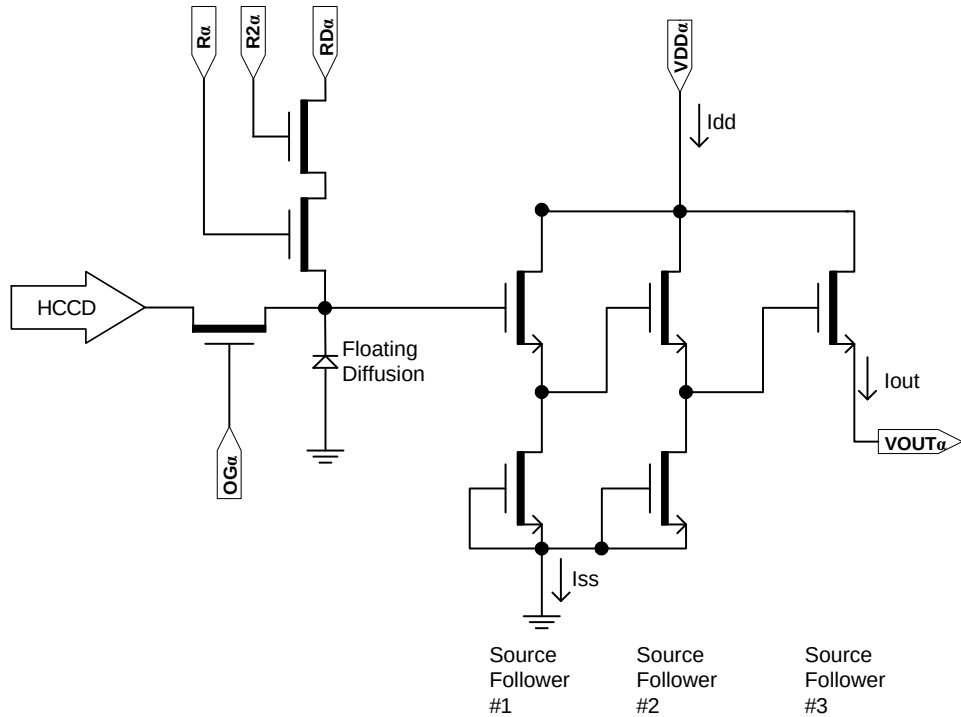

Figure 21. Output Amplifier – Showing Dual Reset Pins
2. The maximum DC current is for one output. I_{dd} = I_{out} + I_{ss}. See Figure 21.